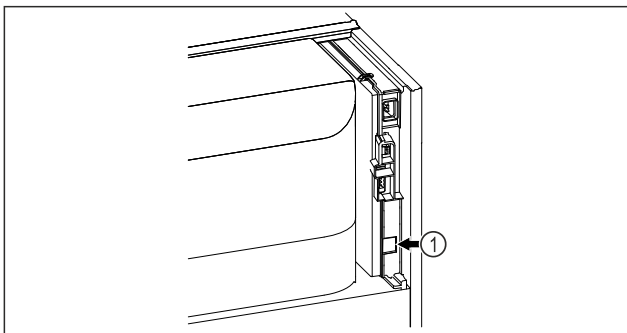

Fig. 128
- ☐ SmartModule Fig. 128 (1) is in use.